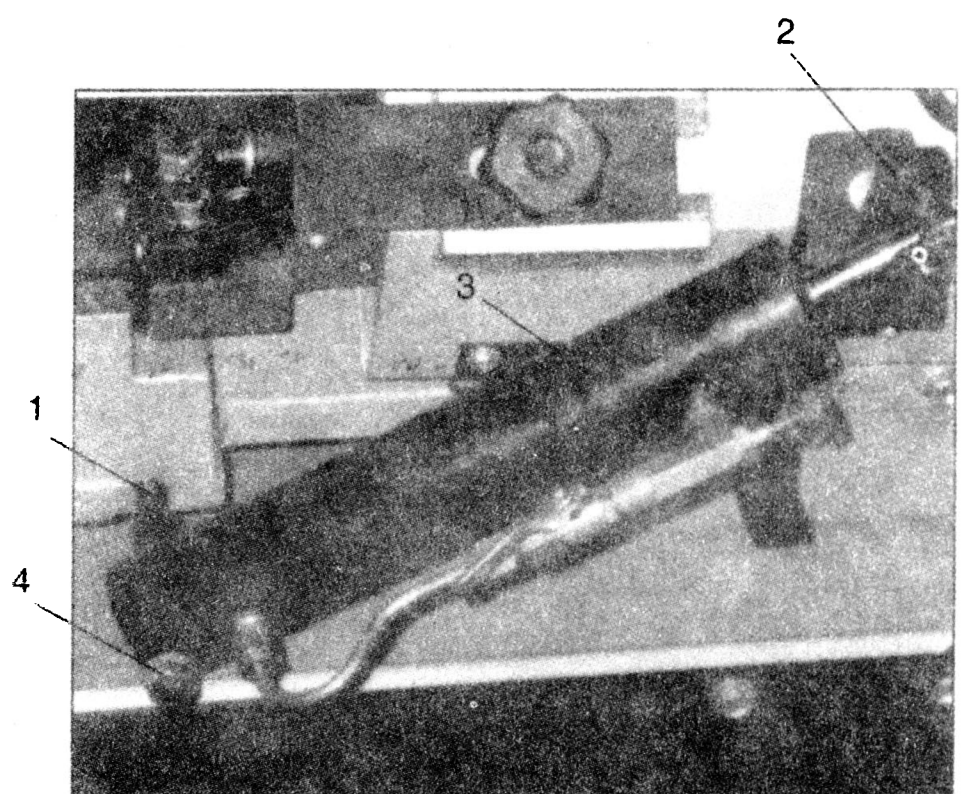

Fig.3
5. Slide cylinder bar (1, Fig. 3) into base and tighten. slide cylinder (3) onto bar and tighten nut (4). slide the screw (2) into the cylinder and tighten.